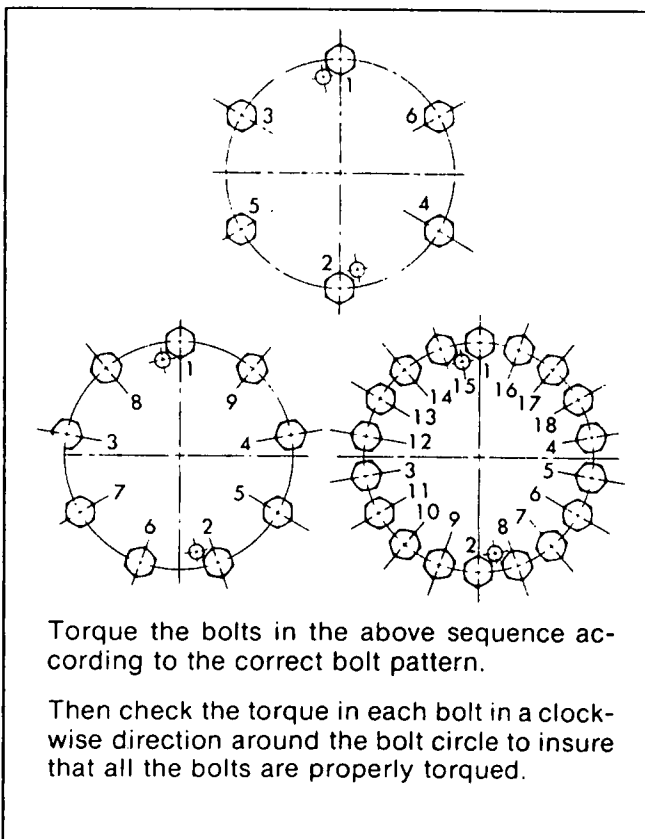

Figure 5. Tightening Sequences
4. Insert a guide stud into the drive hub. Position all spacers (if any), then all drive discs (one at a time) until all discs are installed. Make sure all disc mounting holes are properly aligned at their inner and outer diameters. Secure the discs with the Grade 8 (5/8"-18) capscrews and hardened washers. Tighten to 192 foot-pounds (260 N-m). See Figure 5 for tightening sequences.